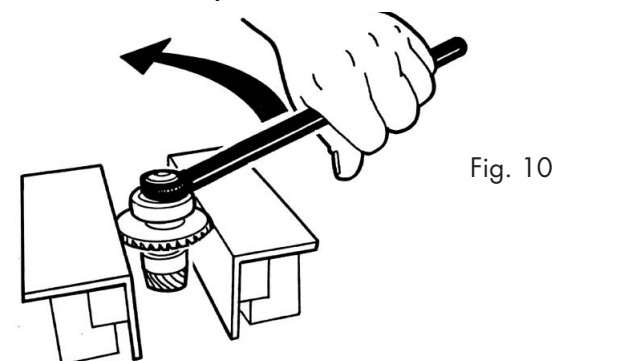

Fig. 10
4. To replace pinion or spiral crown gear assembly, hold outer gear diameter in vice with soft jaws and remove nut in left hand (normal RH thread) rotation. Fig. 10.